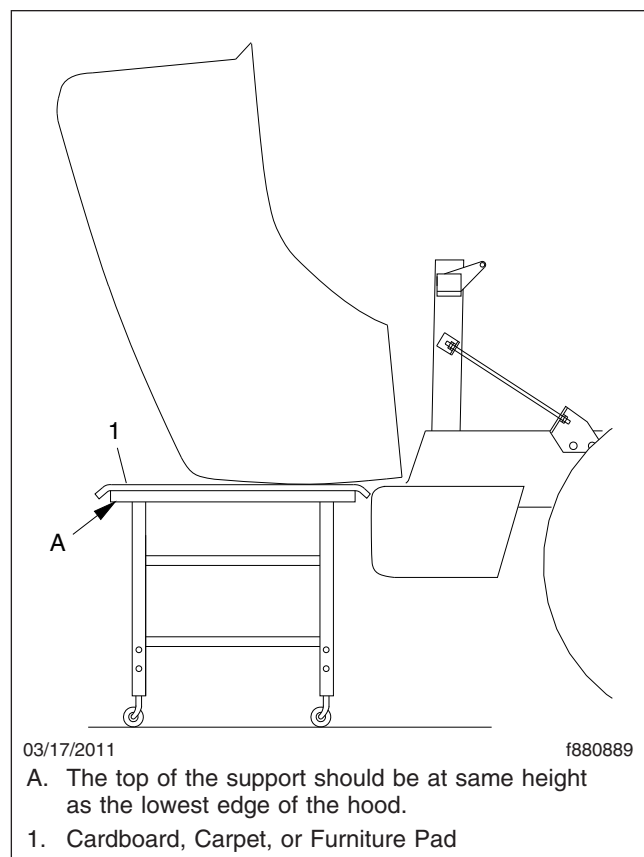

Fig. 1, Supporting the Hood
2. Place a support between the floor and the front of the hood; see Fig. 1.